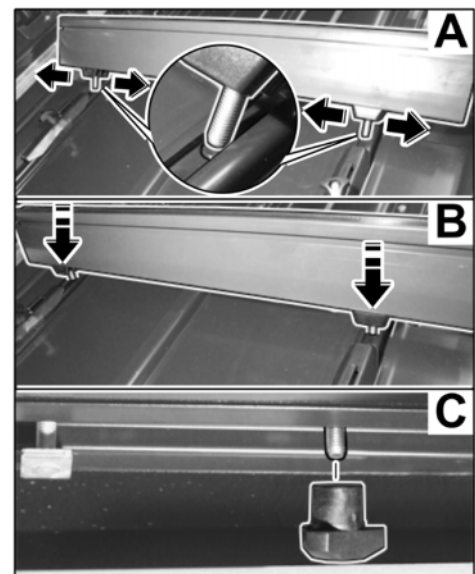

Figure 5
1.3.3 Align the two sliding blocks (underside of ski support) with respect to the width of the perforated strips (guide rail) in the roof box floor (⇒ *Figure 5 -A, arrows-*).
1.3.4 Position thread of the M8 x 45 hexagon-head bolt on the desired breaking point in the perforated strip (⇒ *Figure 5 -inset A-*).
1.3.5 Carefully press the ski support with the thread of the M8 x 45 hexagon-head bolt into the perforated strip (⇒ *Figure 5 -B-*) until the ski support is positioned on the guide rail.
1.3.6 Secure the ski support to the underside of the roof box with two M8 butterfly nuts (⇒ *Figure 5 -C-*).